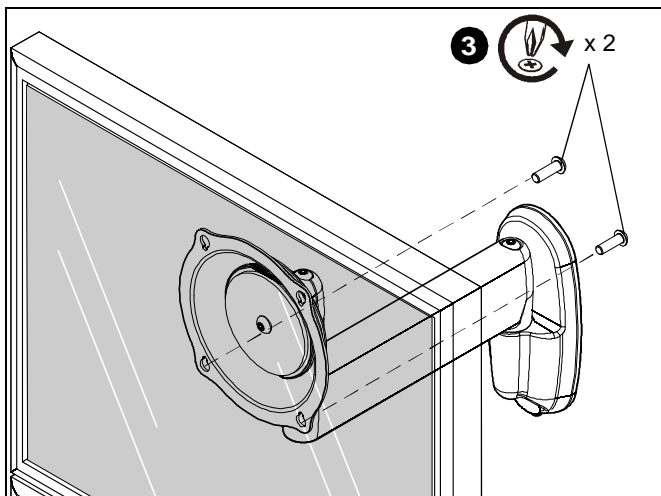

Figure 6
3. Install two more of the same screws through lower mounting holes in display mounting plate and into display back. (See Figure 6)